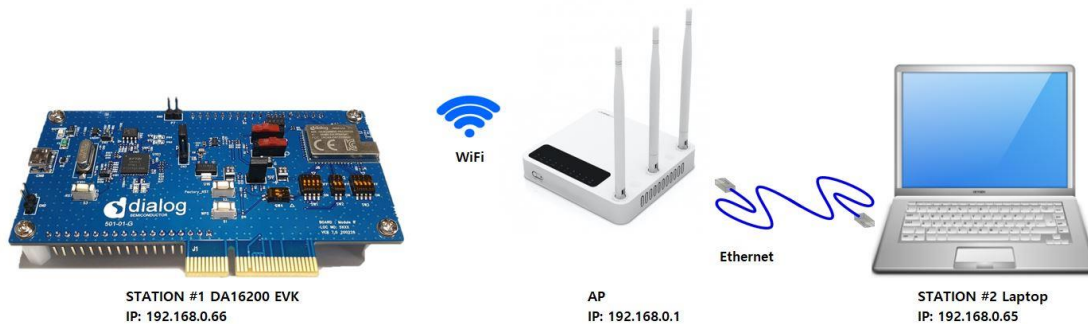

Figure 46. Ping test environment
The ping communication test requires an access point (AP) and two stations consisting of a DA16200 or DA16600 EVB and a desktop. The two stations must be connected to the same sub-network AP as shown in Figure 46.